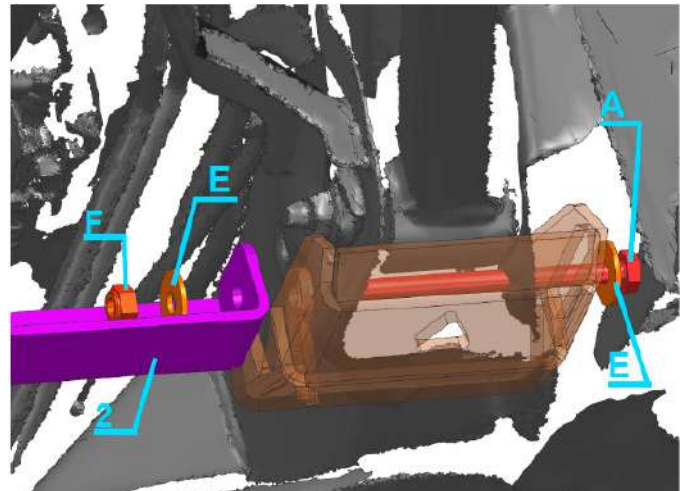

Fig. 6
4. Slide the crossmember (item 2) and left side control arm skid into place. Loosely install M10x150 bolt, M10 washers and M10 nut (items A, E, F) as shown in Fig. 5 and Fig. 6. Do the same on the right side of the vehicle.